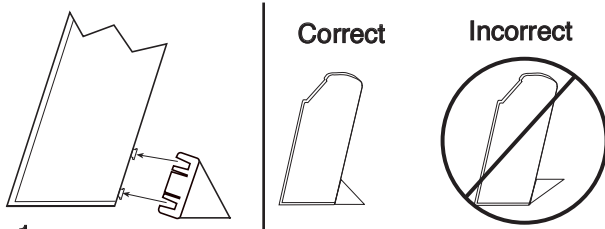

Figure 1
2. Remove plastic support leg extensions from packaging. Line up the slots and slide extension into end panels as shown. (See Figure 1).